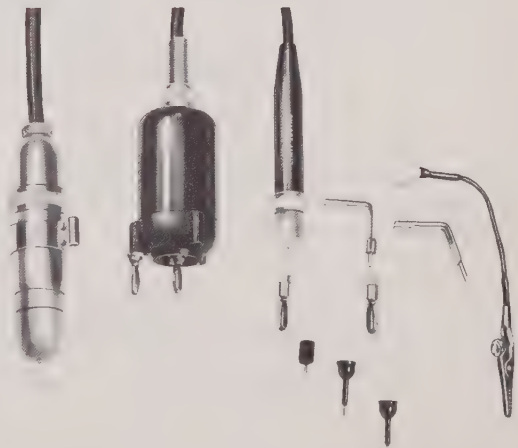

Figure 1-1. The probe and various tip and ground-clip accessories.
- Page 1. Figure 1-1. General Radio does not supply the two leftmost probes in the photograph.